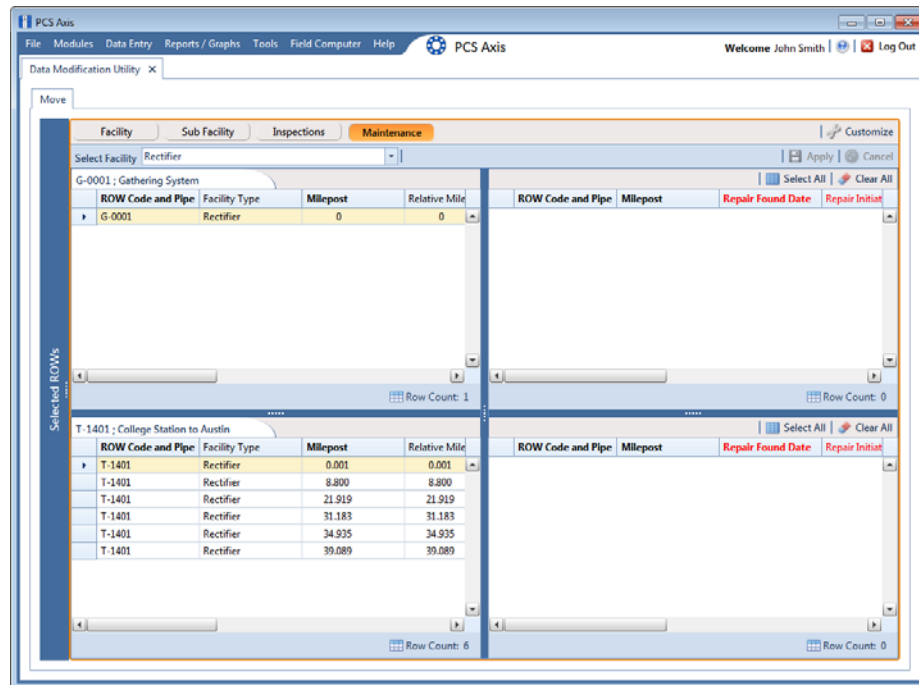

Figure 18-17. Inspections Move
- 4 Click the *Select ROWs* bar to close this panel (Figure 18-17).